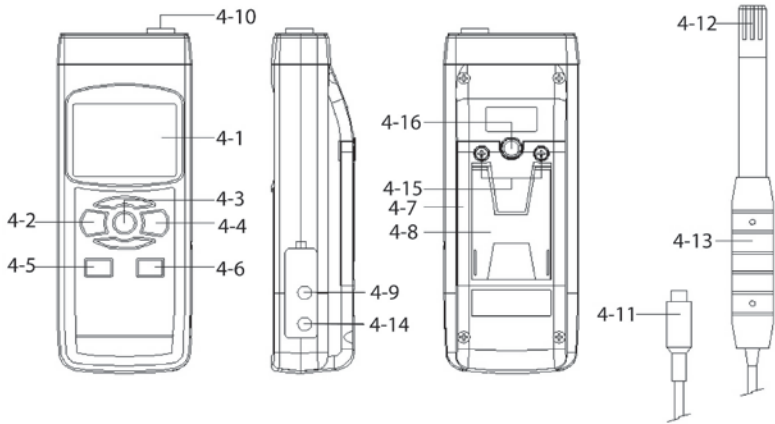

Fig. 1
1. Plug the "Probe Plug" (4-11, Fig. 1) into the "Probe Input Socket" (4-10, Fig. 1).
2. Power on the meter by pressing the "Power Button" (4-2, Fig.1) for 2 seconds. The LCD will show the units of measure on the display after a quick self test. It will display the %RH in the main display and temperature in the bottom section of the LCD.
To measure DEW Point follow the instructions shown in section 4-3 and then press the "Function Button" (4-5, Fig. 1) momentarily once. The LCD will show the word DEW in the main display and temperature below.
While taking measurements you can freeze the displayed value by pressing the "Hold Button" (4-3, Fig. 1) once. The HOLD symbol will be displayed along with the held measured value on the LCD. By pressing the "Hold Button" (4-3, Fig. 1) a second time will release the displayed value and turn off the data hold function.
1. To record the maximum and minimum readings, press the "REC Button" (4-4, Fig. 1). The REC symbol will be displayed on the LCD. By pressing the "REC Button" (4-4, Fig. 1) you can toggle through the Max and Min values.
2. To delete the recorded values press and hold the "Hold Button" (4-3, Fig. 1) for about 3 seconds.
3. To stop using the REC function, press and hold the "REC Button" (4-4, Fig. 1) for at least 3 seconds.
1. Press and hold the "SET Button" (4-6, Fig.1) for about 3 seconds to enter the settings menu (you will see the word code on the bottom of the LCD).
2. Pressing the "Enter Button" (4-4, Fig. 1) will bring you to the unit of measure for temperature (see section 5-1 if you wish to change the unit of measure).
3. Press the "Logger Button" (4-6, Fig.1) and SEC will be displayed on the bottom of the LCD.
4. To cycle through the number of seconds you would like meter to wait between loggings, press the "Function Button" (4-5, Fig. 1). By pressing the "Function Button" (4-5, Fig. 1) the following number of seconds will be displayed on the top of the LCD: 1, 2, 10, 30, 60, 600, 1800 or 3600.
5. Once the number seconds you require is displayed on the LCD, press the "Logger Button" (4-6, Fig.1).
6. Press the "Enter Button" (4-4, Fig. 1) to exit the settings menu, then press the "ESC Button" (4-3, Fig. 1).
7. Press the "REC Button" (4-4, Fig.1) momentarily to start the data log function. The REC symbol will be displayed on the LCD. The data logger function can save up to 1000 values of measure (either Humidity & Temp. or Dew Point & Temp).
8. Press the "Logger Button" (4-6, Fig.1) and the meter will start logging. You will see the A flashing on the top of the LCD every time a logging event has occurred. The A flashing will match the number of seconds you set in the setup of the data logger function.
1. Press the "REC Button" (4-4, Fig.1) momentarily to start the data log function. The REC symbol will be displayed on the LCD. The data logger function can save up to 1000 values of measure (either Humidity & Temp. or Dew Point & Temp).
2. Press the "Logger Button" (4-6, Fig.1) every time you would like the meter to record a value. You will see an A flash in the top of the LCD. The meter will not record another measurement until you press the "Logger Button" (4-6, Fig.1) again.
1. Press and hold the "SET Button" (4-6, Fig. 1) for about 3 seconds until the LCD displays "Code". Once you release the button you should see 1000 in the main display. 1000 is the password code to allow advanced measuring procedures. To leave the setting menu press the "ESC Button" (4-3, Fig.1).
2. Press the "Enter Button" (4-4, Fig. 1).
4. Now you are in the setting area to set or change the temperature unit of measure. Pressing the "Set Button" (4-6, Fig. 1) will cycle through the following setting sections:
1. Press and hold the "Set Button" (4-6, Fig. 1) for about 3 seconds until you see the word "CODE" in the bottom of the LCD.
2. Press the "Enter Button" (4-4, Fig. 1). Now you may select between °C & °F by pressing the "Function Button" (4-5, Fig. 1). When a "0" is in the main LCD the unit will display temperature in °C. When a "1" is in the main LCD then the unit will display temperature in °F.
1. Press and hold the "Set Button" (4-6, Fig.1) for more than 3 seconds.
2. The main LCD should then display 1000. Now press the "Enter Button" (4-4, Fig. 1)
3. Now press the "Set Button" (4-6, Fig.1). You will see SEC in the bottom left of the LCD.
4. Use the "Function Button" (4-6, Fig. 1) to cycle through the available seconds settings. Stop on either 0, 1, 2, 10, 30, 60, 600, 1800 or 3600. The value you select will tell the meter how often to log an event. Note that 0 SEC can only be used in the manual logging function.
5. Press the "Enter Button" (4-4, Fig.1) to confirm your selection and save it to the meters memory.
6. Press the "ESC Button" (4-3, Fig.1) to go to the normal measurement mode.
1. Press and hold the "Set Button" (4-6, Fig.1) for about 3 seconds.
3. Press the "Set Button" (4-6, Fig.1) twice and you will see the Cnt marker in the bottom of the LCD. The top number is the number of available data points.